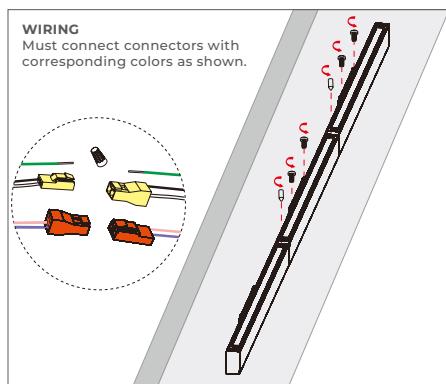

FIGURE 2-8
- 7) Repeat steps for each fixture. (Figure 2-8)